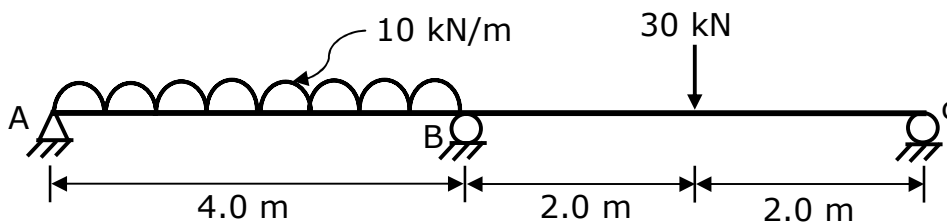

Fig. 2
- (b) For continuous beam ABC as shown in fig. 2 determine support reactions with the use of Castigliano's theorem. **07**